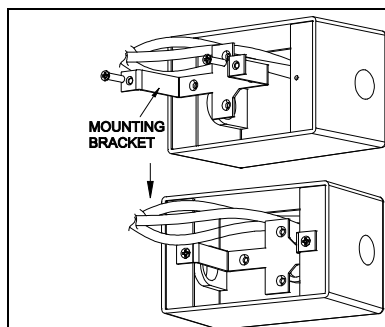

FIG.1
2. Secure mounting bracket to J-box using (2) 8-32 J-Box screws (J-box and screws by others) as shown in Fig.1.